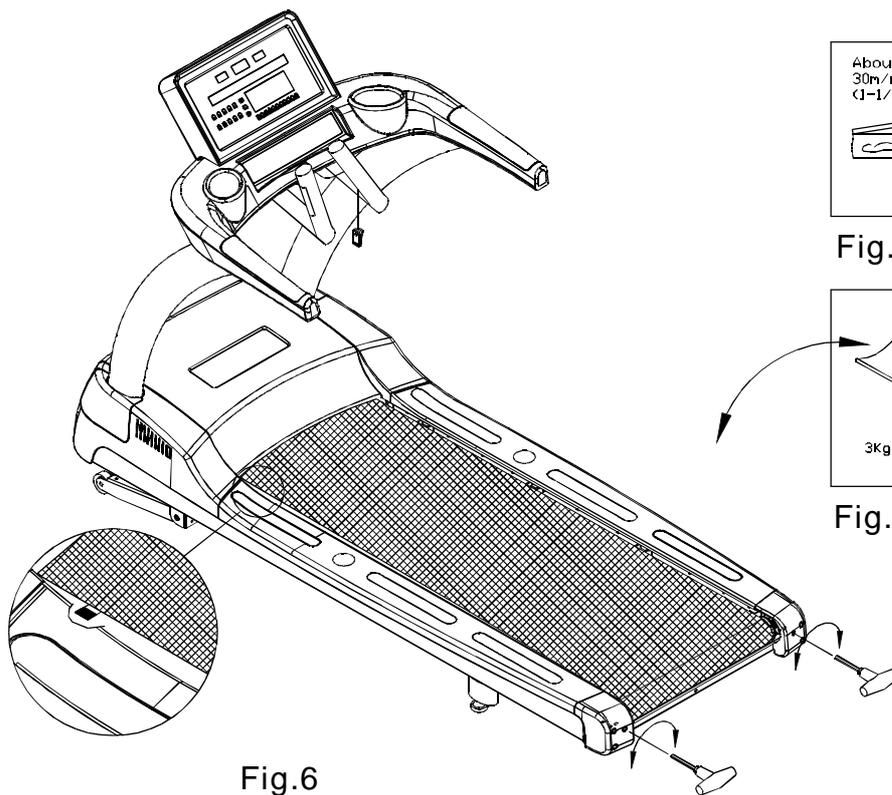

Fig.6
11. Periodically inspect belt tracking and tightness to ensure optimum performance of your treadmill. To check the correct tension of the belt, hold the belt in the middle, and lift up about 30 m/m (1 1/8") or 3 kg (6.6 pounds) of force (see Fig. 6, 6-1, 6-2).